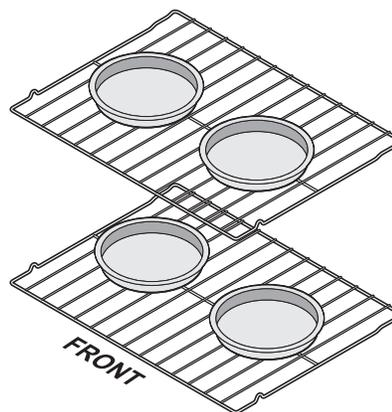

Figure 17: Baking on multiple levels
- For best results when baking cakes or cookies using two oven racks, place racks in positions 3 offset and 5 flat (See Figure 17).